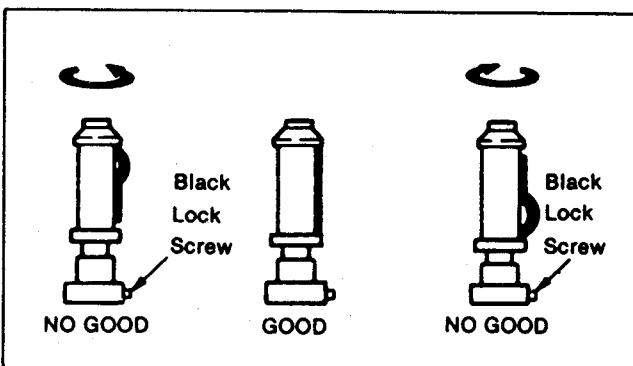

Fig. T4
- (1) Playback a cassette tape and confirm that the tape travels without curling at upper and lower guides on posts T4, T2, S4 and S2 as shown in Fig.T4.